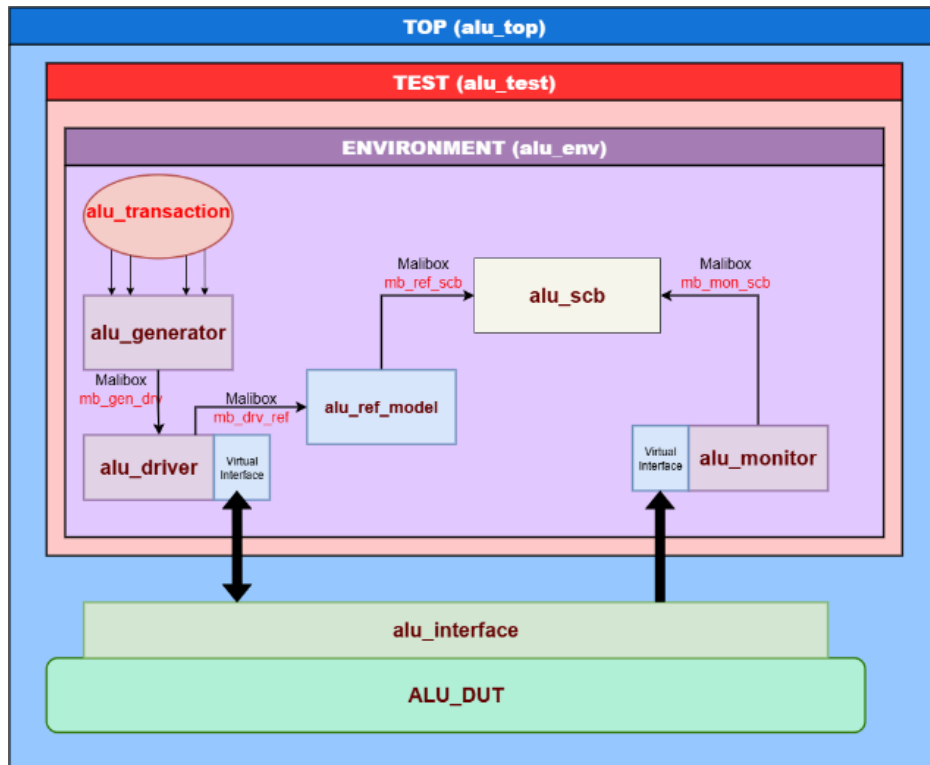

Fig.2 : ALU testbench architecture
- Fig.2 is the testbench architecture of ALU.